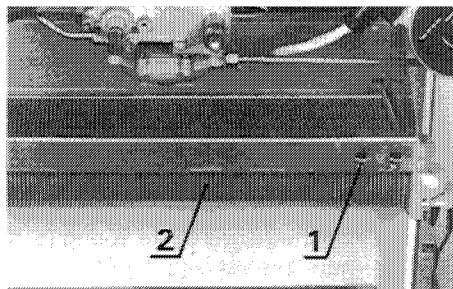

Fig. 20
- c) Remove two screws (1, fig. 20) and slide out flue duct inspection cover.
- g) Invert matrix (2, fig. 20) and remove two fixing screws from rear of combustion chamber panel to heat exchanger.